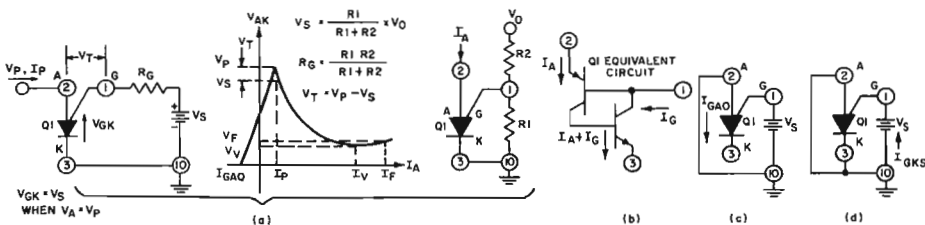

Fig. 22 — General anode characteristics for Q1 (PUT).
* $V_T = V_P - V_S$ (Fig. 22)
The programmable unijunction transistor is essentially an anode-gate SCR. The volt-ampere characteristic of the device is shown in Fig. 22. When an equivalent Thevenin source (V_S, R_G), as shown in Fig. 22, is applied to the gate terminal the device will be "off" if the anode-voltage is negative with respect to the gate voltage. Under this condition, any current flow is exclusively leakage current. When the anode voltage be-